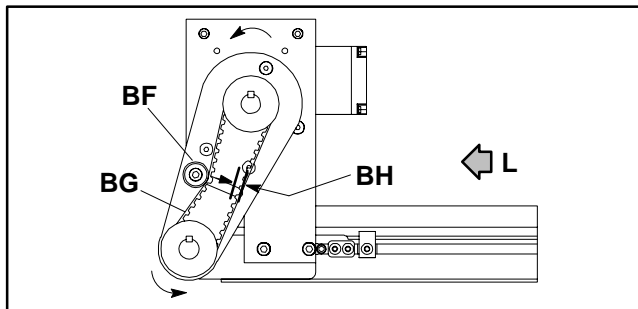
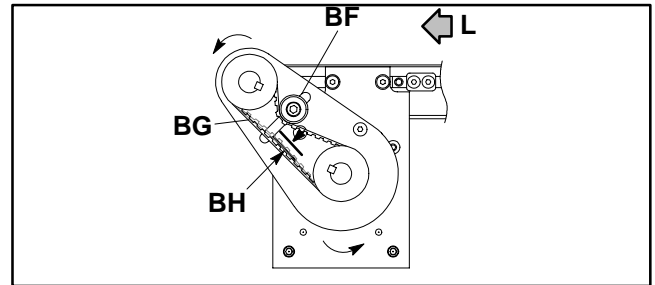

Figure 34
Figure 36
**NOTE:** The following information applies to both top (Figures 34 & 35) mounting and bottom mounting (Figures 36 & 37) packages. The position of the tensioning bearing assembly (BF) with respect to the timing belt (BG) is dictated by the direction of conveyor belt travel (L).